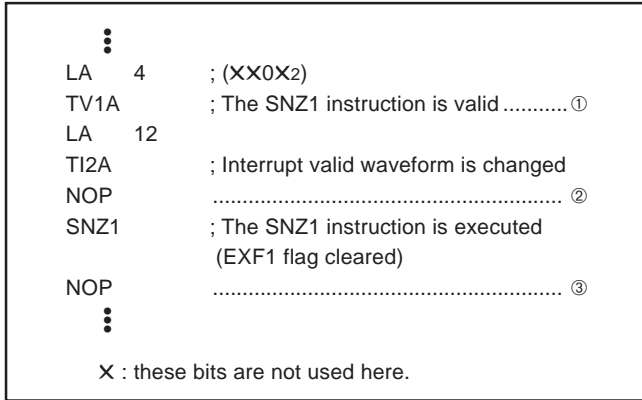

Fig. 63 External 1 interrupt program example-3
- Depending on the input state of the P31/INT1 pin, the external 1 interrupt request flag (EXF1) may be set when the bit 2 of register I2 is changed. In order to avoid the occurrence of an unexpected interrupt, clear the bit 1 of register V1 to "0" (refer to Figure 63①) and then, change the bit 2 of register I2. In addition, execute the SNZ1 instruction to clear the EXF1 flag after executing at least one instruction (refer to Figure 63②). Also, set the NOP instruction for the case when a skip is performed with the SNZ1 instruction (refer to Figure 63③).